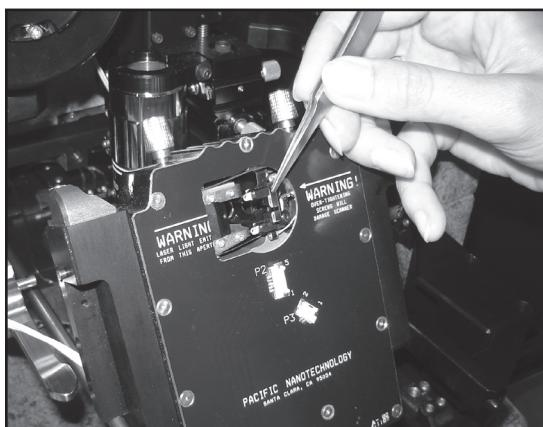

Figure 2.14: Removing the Probe
- Use tweezers to grasp the metal plate as indicated in Figure 2.14.